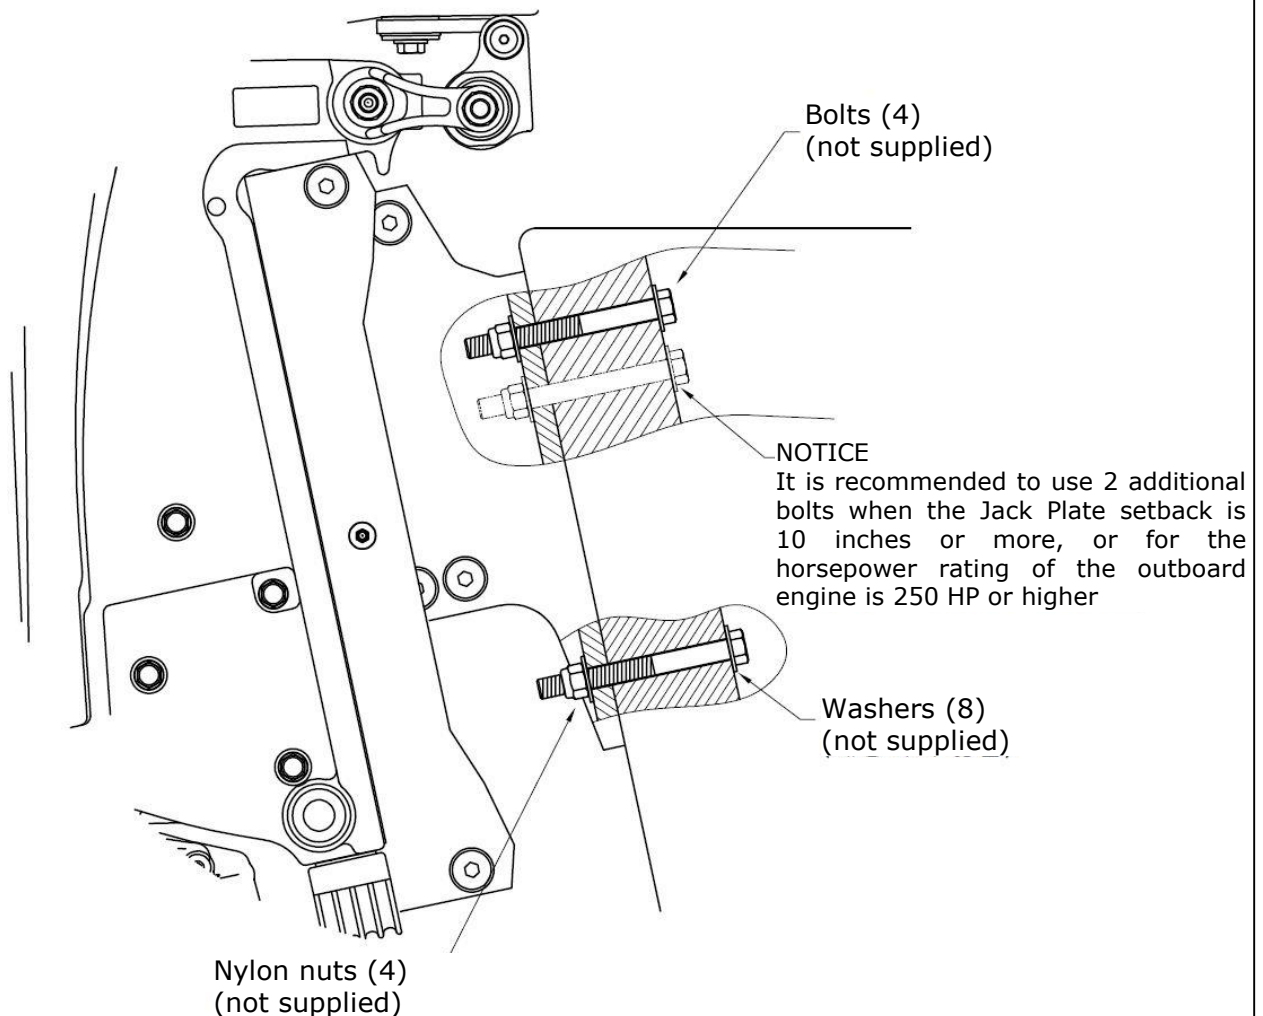

Figure 6.
- It is recommended to use 2 additional bolts when the Jack Plate setback is 10 inches or more, or the horsepower rating of the outboard engine is 250 HP or higher (see Figure 6).
- It is recommended to use 2 additional bolts when the Jack Plate setback is 10 inches or more, or the horsepower rating of the outboard engine is 250 HP or higher. (see Figure 6.)